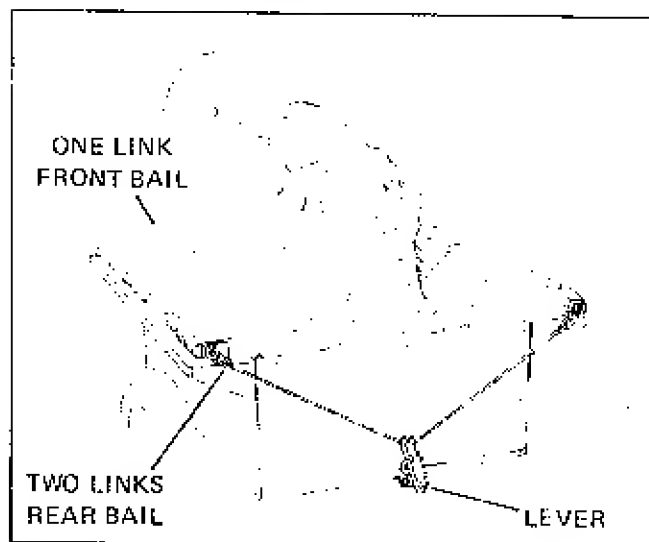

FIGURE 18
1. Insert each bail through slotted hole in lever and center the lever on the bail (Figure 18).
2. Attach one link to each end of one bail and two links to each end of other bail (Figure 18). The bail with two links each will be placed later at rear of cart and the bail with one link each at the front.